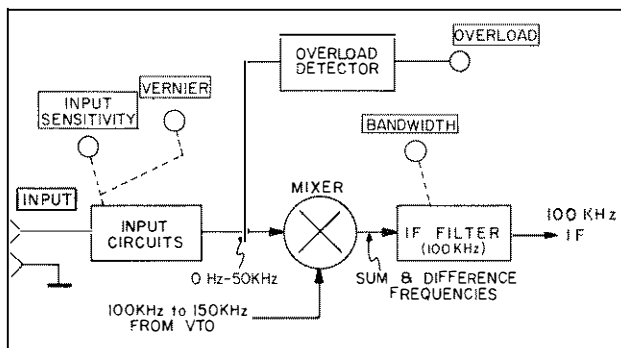

Figure 3-14. Frequency Tuning.
3-81. Refer to Figure 3-14 for the following discussion. The 3581 uses a heterodyne technique where the 0 Hz to 50 kHz input signal is mixed with a 100 kHz to 150 kHz signal from a Voltage-Tuned Local Oscillator (VTO). To select a given frequency present at the input of the Mixer, the VTO frequency is tuned so that the difference between it and the frequency of interest is 100 kHz. The 100 kHz intermediate frequency (IF) is fed through the IF Filter, detected and applied to the meter. Signals outside the passband of the IF Filter are rejected. The BANDWIDTH setting determines the bandwidth of the IF Filter and thus, the selectivity of the instrument.